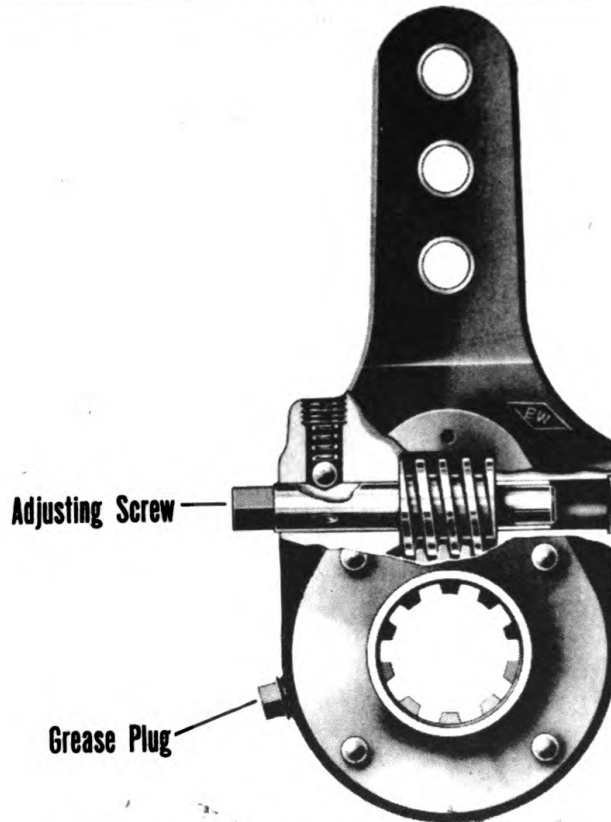

Figure 30—Cross Section of Slack Adjuster.
(1) With brakes fully applied, and while holding the diaphragm in place, coat the bolting flanges with soap suds to check for leakage. No leakage is permissible. If leakage is found, tighten the flange bolts. All flange bolts must be tightened evenly and only sufficiently to prevent leakage; otherwise the diaphragm will be distorted and premature failure will result.
(2) With the brakes fully applied, check for leakage through the diaphragm by coating the clearance hole around the push rod and the drain holes in the non-pressure plate with soap suds. No leakage is permissible. If leakage is found, the diaphragm must be replaced.
(3) Excessive push rod travel will cause premature failure of the brake chamber diaphragm. When diaphragms are replaced, brake chamber release springs should also be checked and replaced if necessary. It is important when replacing brake chamber springs to always install the same type of spring as the one removed; otherwise uneven braking will result.
4. Slack Adjuster. (See figure 30.)